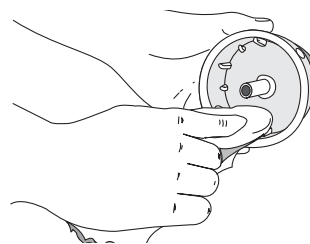

FIGURE 13
4. Use a clean cloth to wipe the the inner reel, spring, shaft, and inner surface of the outer spool, Figure 13.